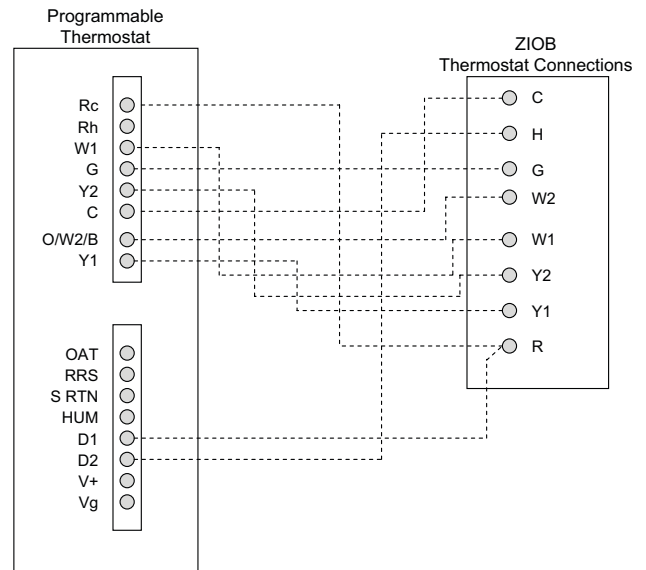

Fig. 37 — 50WE*H17 Unit with Humidi-MiZer Dehumidification System with Edge® Pro Thermidistat Device
3. The Thermidistat has dry contacts at terminals D1 and D2 for dehumidification operation (see Fig. 37). Connect D1 to the R terminal on the UCB. Connect D2 to the HUM terminal on the UCB. Refer to the installation instructions included with the Carrier Edge® Pro Thermidistat device for more information.